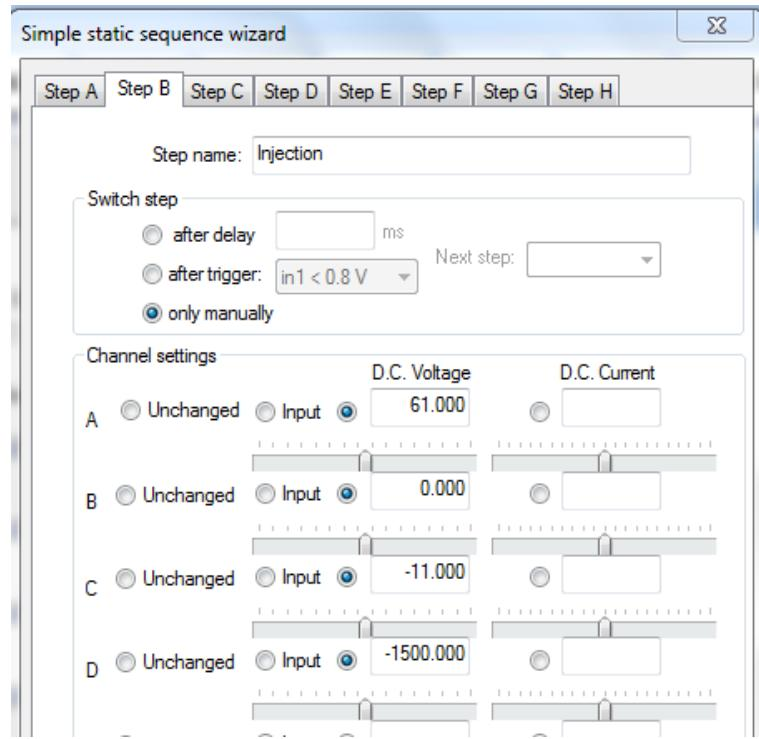

Figure 35. Example: Simple Sequence Wizard Electrokinetic Pinched Injection on a Chip: Step B—Injection.
9. Set Channels A-D to regulate D.C. voltages, according to Table 3. You can either click and drag the **DC Voltage** slider to set the values, or enter the values directly in the **DC Voltage** box. These settings are shown in Figure 35.